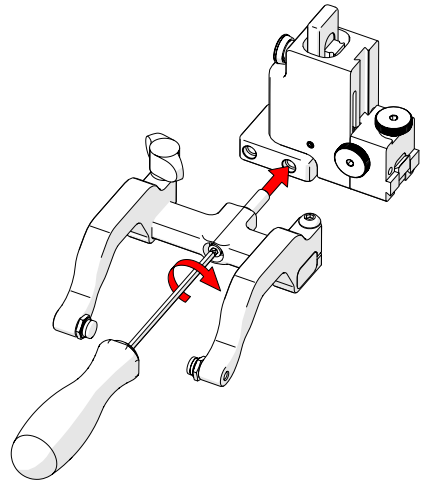

Fig. 205 - Screw into threaded hole
7. Screw the yoke to the probe holder (Fig. 205).